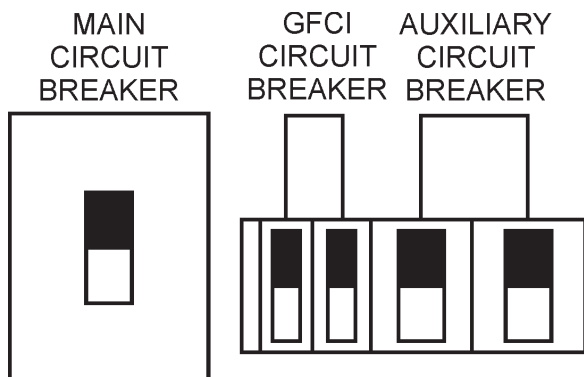

Figure 51. Main, AUX. and GFCI Circuit Breakers (ON)
17. Turn the *main*, *GFCI*, and *aux.* circuit breakers to the “ON” position (Figure 51).